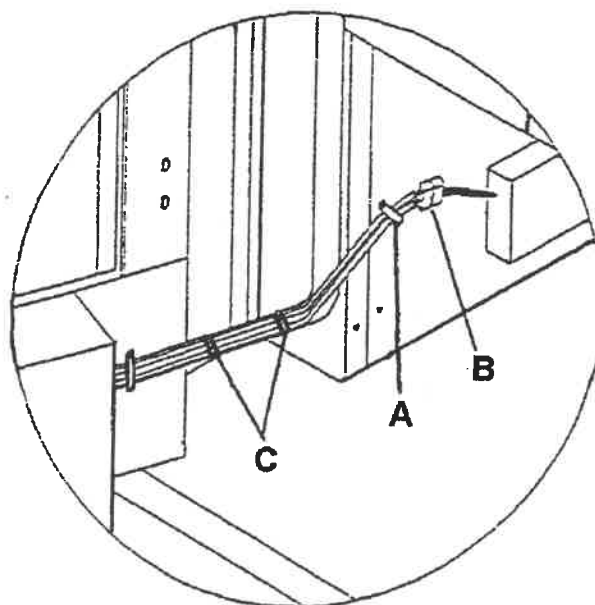

Figure 3
3. Locate the 9-WAY ballast connector and disconnect it (see "B", figure 3).
5. Reinstall the ballast on the new plate using the four (4) #10 sems screws (900,301,97x.x1).
6. Remove the clamp from the light harness in the bottom of the cabinet (see "A", figure 3).
7. Remove the wire (cable) ties from the harness between the door and cabinet and remove the lighting harness from the bundle (see "C", figure 3).